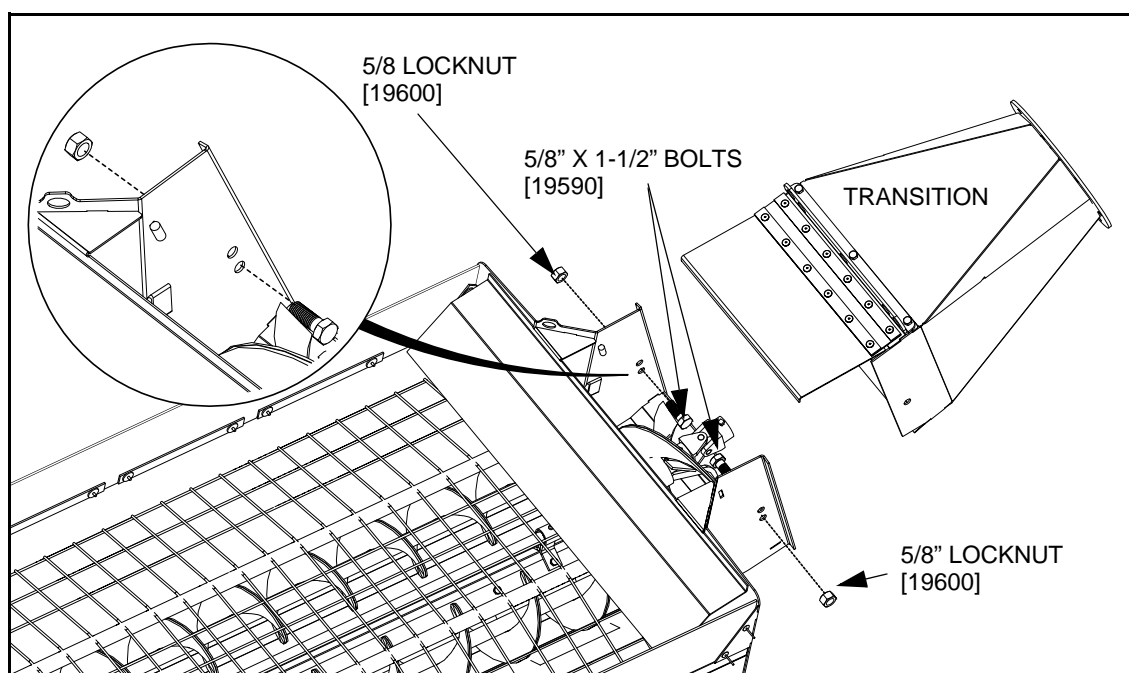

Figure 3.36 Installing the Transition
1. Attach the Transition to the intake hopper with two 5/8" x 1-1/2" bolts (19590) and 5/8" locknuts (19600). **DO NOT** over-tighten; tighten to a slightly loose fit only as these bolts act as pivot points (Figure 3.36).